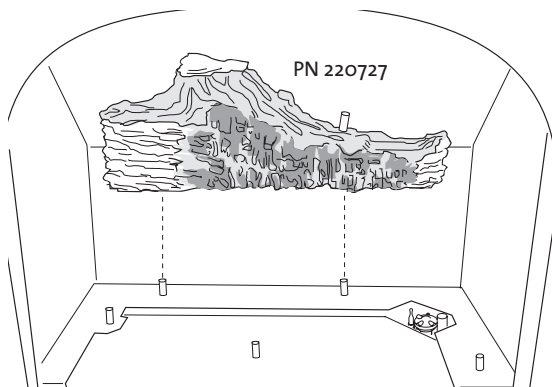

Figure 10. Install rear log.
1. Engage the holes in the underside of the rear log with the two pegs in the burner skirt as in fig. 10.